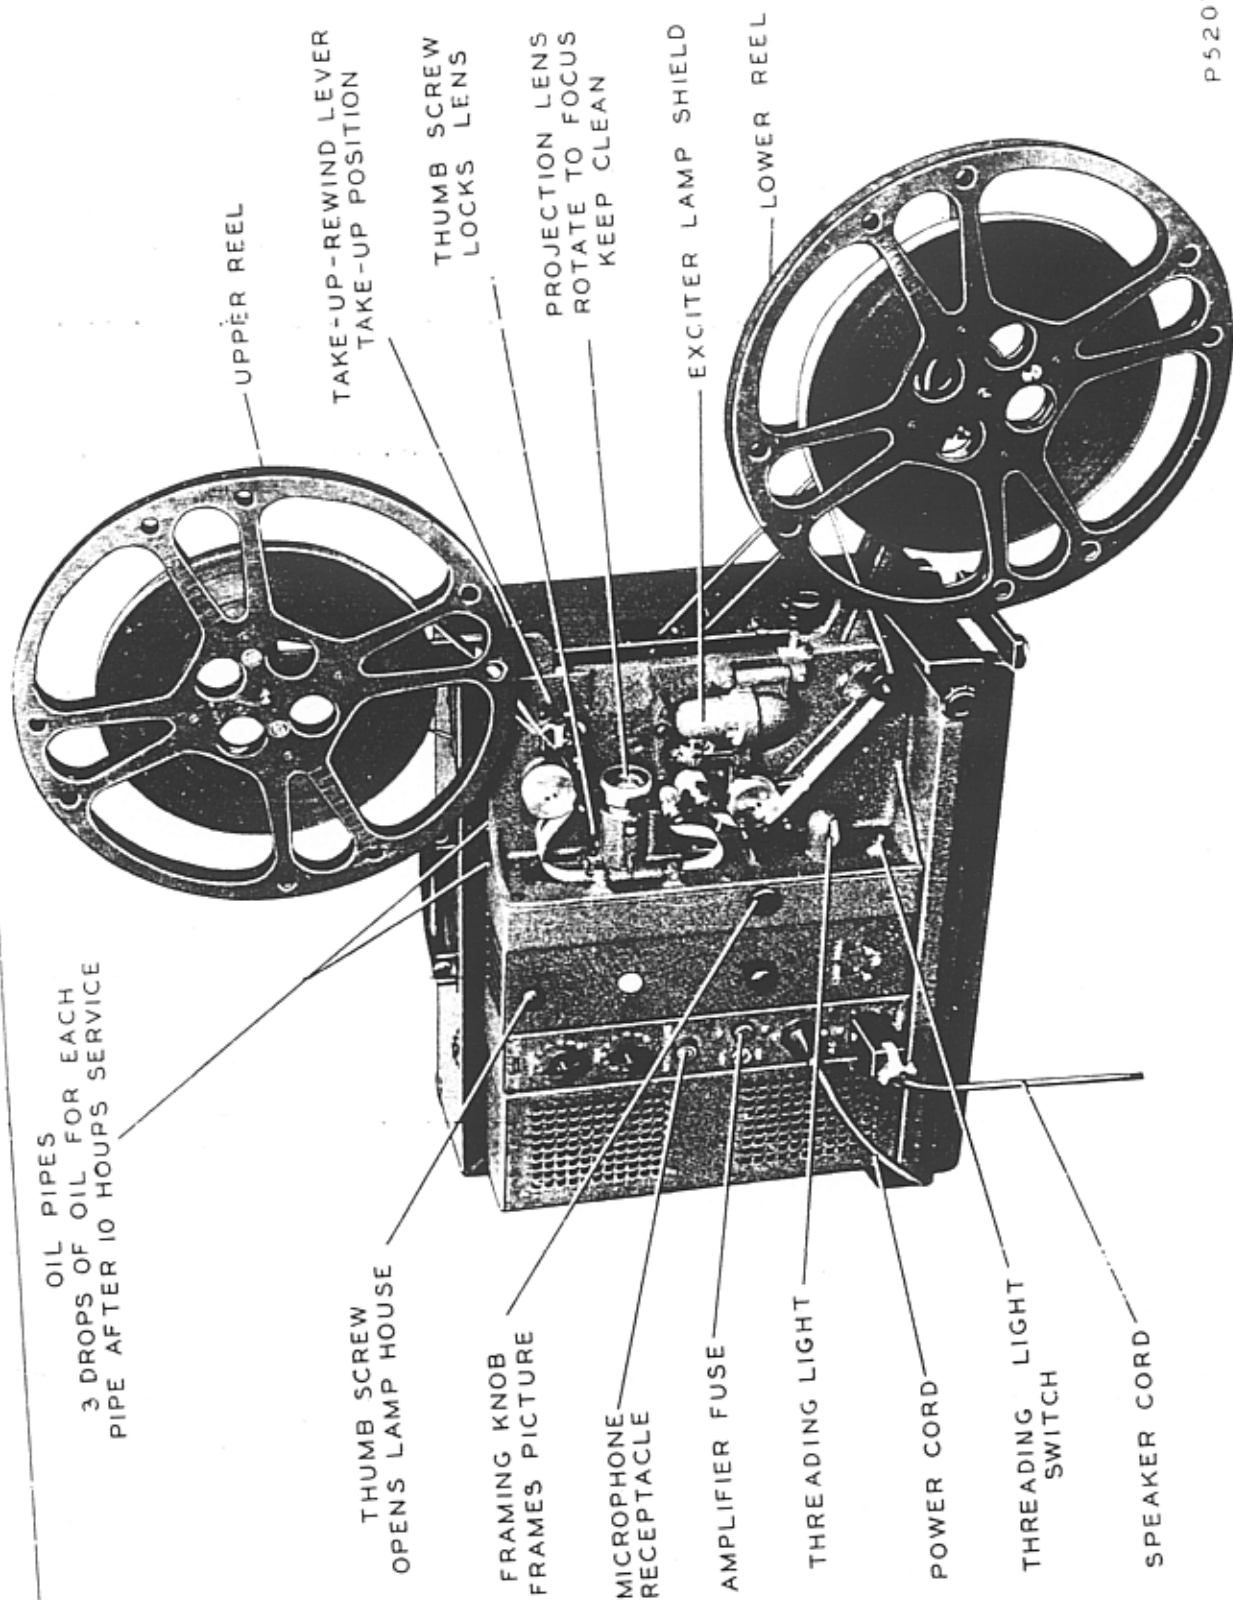
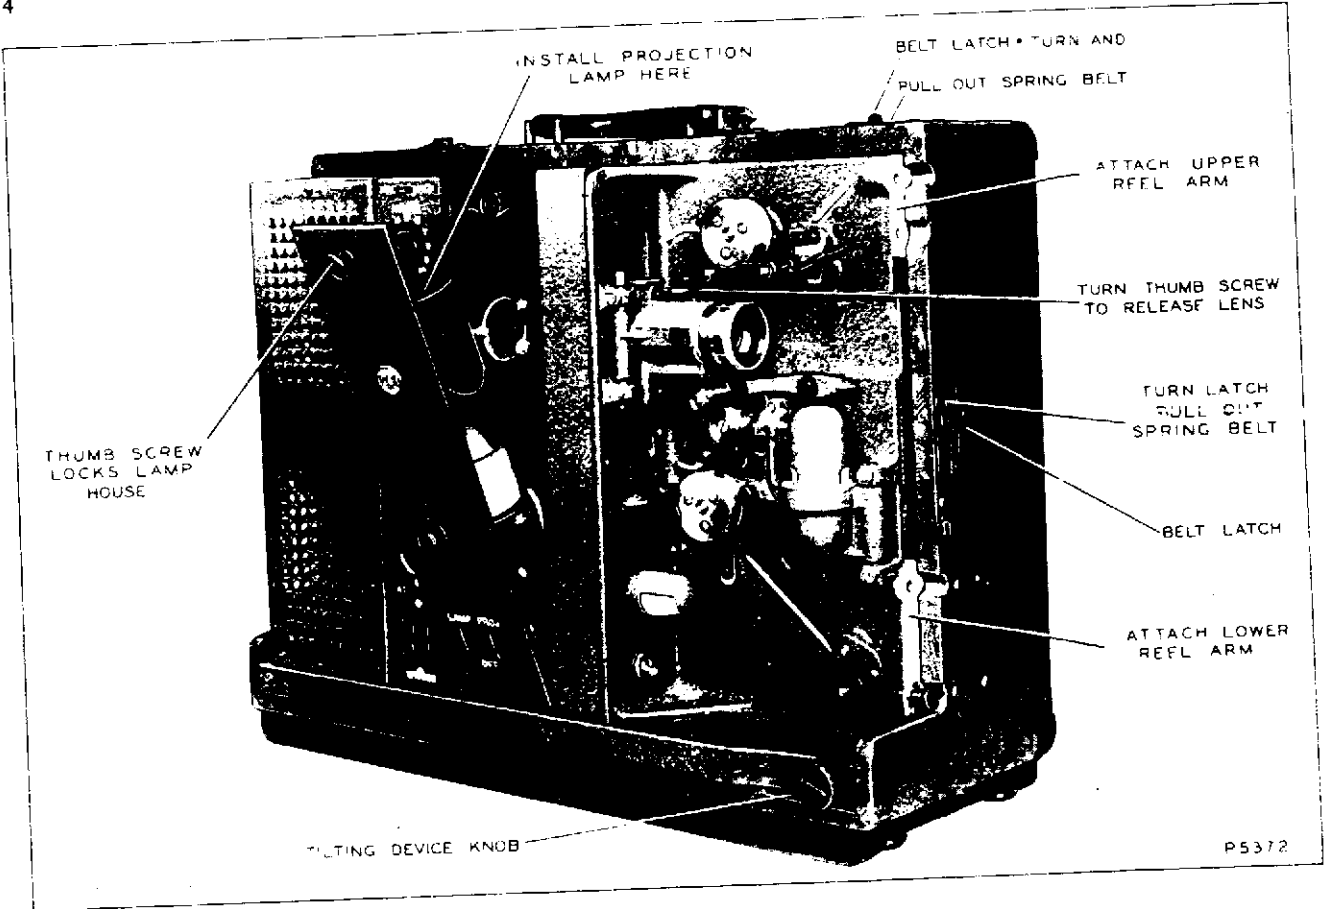

Figure 2—Projector Ready for Operation
Figure 4—Setting Up Projector
5. Open the lamp house (fig. 2) and insert the projection lamp in the socket attached to the lamp-house door (fig. 4). Line up the wide and the narrow flanges on the base of the lamp with the corresponding recesses in the socket. Press down firmly on the lamp and turn it clockwise (about 90°) until it locks in place. Avoid getting fingerprints on the clear portions of the lamp for they will burn into the glass and permanently mar the lamp. Close the lamp-house door and lock it with the thumbscrew.
6. Attach the reel arms to the frame of the projector where shown in figure 4. (They fit in only one way.) Lock them with the captive thumbscrews. Turn the latches that hold the spring belts inside the projector case, pull out the belts (fig. 4), and put them over their respective reel pulleys. Put the empty reel on the lower reel arm, moving the projector forward until the reel clears the front
c. Shift the projector sidewise until the light beam points to the screen and turn the tilting-device knob (fig. 4) until the beam centers on the screen in the vertical direction.
d. Release the lens by turning the thumb-screw (fig. 2) on top of the lens holder. Focus the projector, first by sliding the lens back and forth in its holder and then by rotating it until the edges of the lighted area on the screen are as sharp as possible. Turn off the LAMP and PROJ. switches.
c. Frame the picture, if necessary, by turning the knob marked **FRAME** (fig. 2).
13. Just before putting the projector into operation for the first time, or after it has stood idle for a period of 30 days or more, put two or three drops of the MI-1331 oil supplied with the machine into each of the two oil pipes terminating on top of the projector frame (fig. 2). When operating the projector continually, put this amount of oil into each pipe every 10 hours of operation, or more frequently if inspection indicates the need of lubrication. Do not use too much oil, for the excess may reach the optical or the film-carrying surfaces of the machine, where it would cause picture blurring and sound distortion.
(7) In a similar manner clean the reflector mounted opposite the condenser lens.
(8) Take out and clean the projection lamp. Leave no fingerprints on the clear areas of the lamp.
(9) Remove the projection lens from its holder and brush off any dust with a camel's-hair brush. If necessary to clean the lens more thoroughly, follow the directions given in b(6) above. Be especially careful **not to leave any dust** or lint on the lens surfaces. Replace the lens in its holder and secure it with the thumbscrew (fig. 2).
(10) Open the optical bracket and swing it out of the way. Remove the exciter-lamp cover. With a camel's-hair brush remove all dust and lint from the photocell, the optical mirror, and the two small lenses on the optical unit. Be very careful with the mirror, for it may be dislodged by rough handling.
(11) Remove the exciter lamp and clean it in the same manner as the projection lamp. Put the cover on the exciter lamp and fasten the sound optical bracket in its original place.